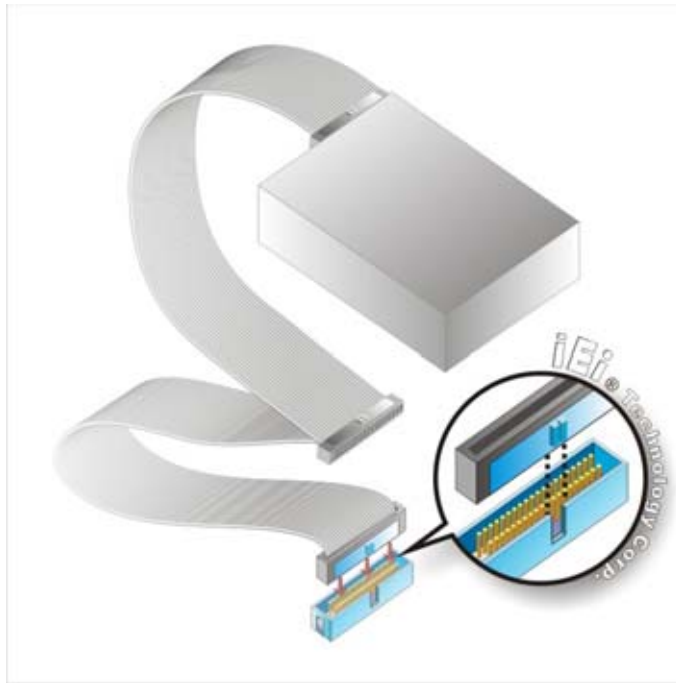

Figure 5-5: IDE Cable Connection
Step 5: Insert the connector. Connect the IDE cable connector to the onboard connector. See **Figure 5-5**. A key on the front of the cable connector ensures it can only be inserted in one direction.